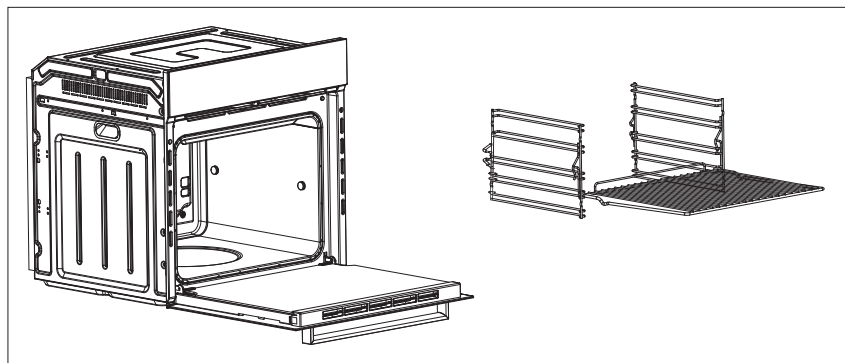

Figure 2.
- » Remove the side racks (see section below and Fig.2)
- » Finally, refit the side racks (See below and Fig.2)